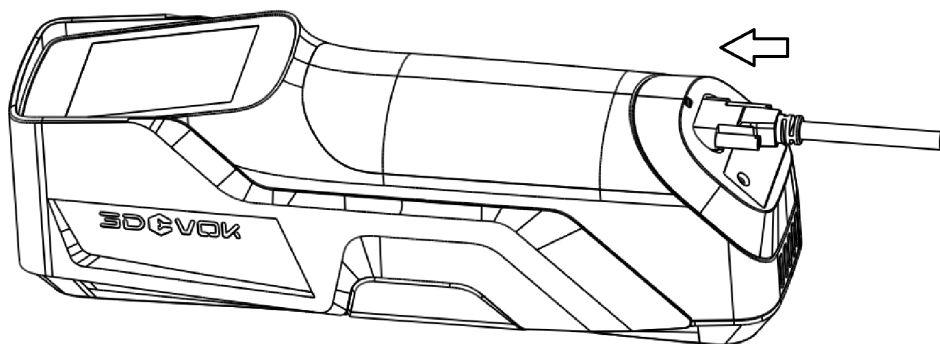

Figure 3-1 USB Cable Connection for Scanner
1. Connect one end of the USB cable to USB 3.0 port (the blue port) of PC (if it is a desktop, it should be plugged into the USB 3.0 port at the back of the chassis), then connect the other end to the bottom of the device (in the direction of the arrow), and tighten the screw, as shown in Figure 3-1.